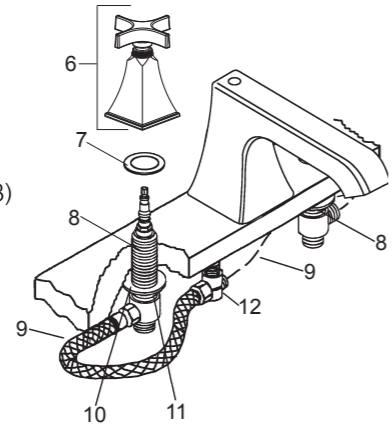
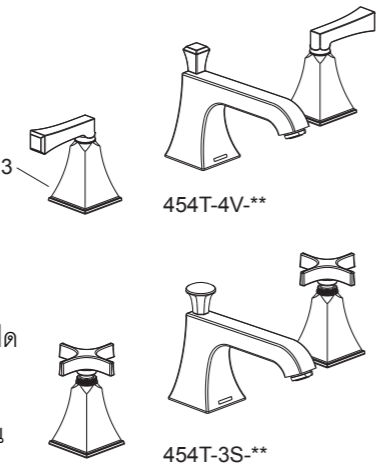

Fig. 1/ภาพแสดงที่ 1
Fig. 2/ภาพแสดงที่ 2
Thread rubber washer(7) under handle kit(6). Adjust the direction of each side body as Fig.1 shown and the handle kit and bonnet(13) as Fig.2 shown (**NOTE:** The handle kit with red washer should be installed on the left side).
Rotate each bonnet(13) counter-clockwise and adjust its direction as Fig.2 shown.
Ensure the direction of handles is the same as Fig.2 when the valves are in the off position.
Install the washers(10) and the nuts(11). Wrench tighten the nuts. Connect the side bodies and center tee(12) with hoses(9) as Fig.1 shown.
The Fig.2 shown is the correct position of the handles in the closed position.